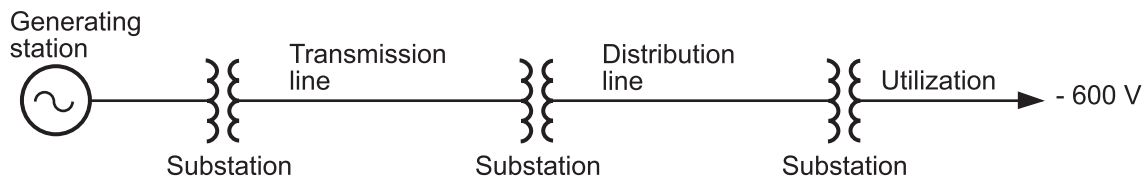

Figure 1—Generation, transmission and distribution of electrical energy
High voltage (HV) is needed to generate, transmit and distribute electric energy economically. To understand HV distribution systems, you must become familiar with the terms and classifications used in HV installations. Figure 1 is a typical one-line diagram of an HV distribution system.